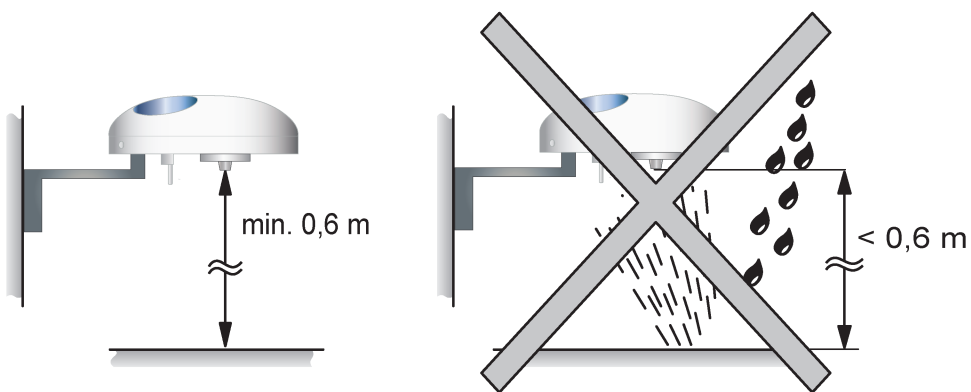

Figure 2: Minimum distance to surfaces
- Attach the fastening arm enclosed with the weather station to a suitable wall. In so doing, always ensure the minimum distance to the surfaces beneath (figure 2).